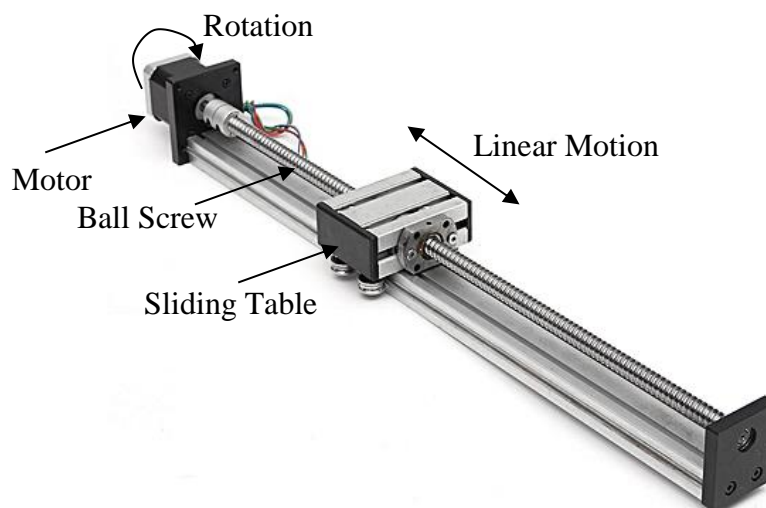

Figure 8 / Rajah 8
- (c). A ball screw is connected to a motor to produce linear motion of a sliding table as shown in **Figure 8**. If one complete rotation of the ball screw will produce 3 mm displacement of the sliding table, what is the torque of the motor required to generate 50 mm amplitude motion of the sliding table at 2 Hz? Given the power of the motor is 3000 W.